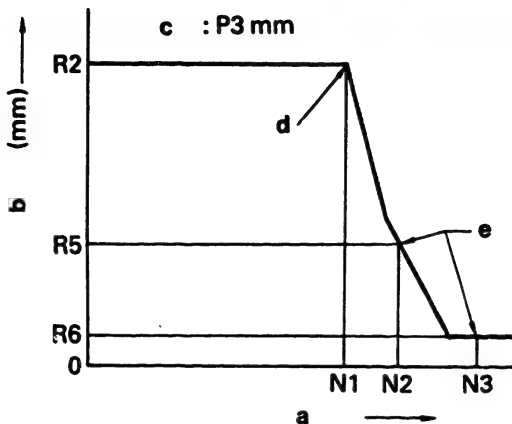

Fig. 69
1. Perform this adjustment with negative pressure maintained at P₃. (Fig. 69)